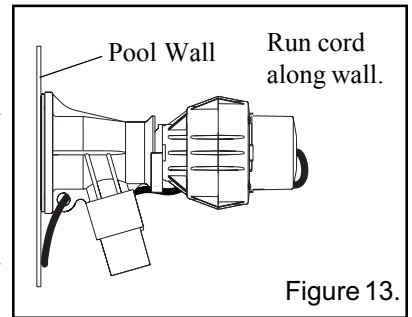

Figure 13.
- 4. Route cord through the cord hole in the body; see Figure 13.
19. Snap cap onto end of body so that the electrical cord is pointing down; see Figure 13.